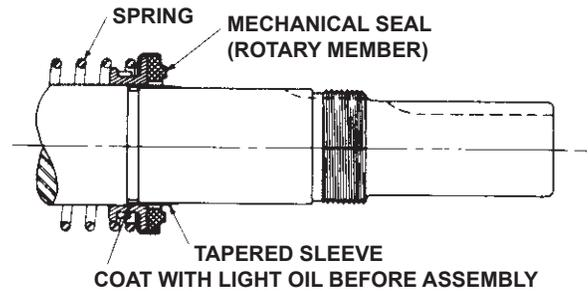

FIGURE 11
4. Place a tapered installation sleeve on the shaft, refer to **Figure 11**. The sleeve is furnished with G, GG, AS, AK and AL replacement mechanical seals. Coat the rotor shaft, tapered installation sleeve and inner diameter of the mechanical seal rotary member with a generous amount of non-detergent SAE 30 weight oil. Petrolatum may be used but grease is not recommended.